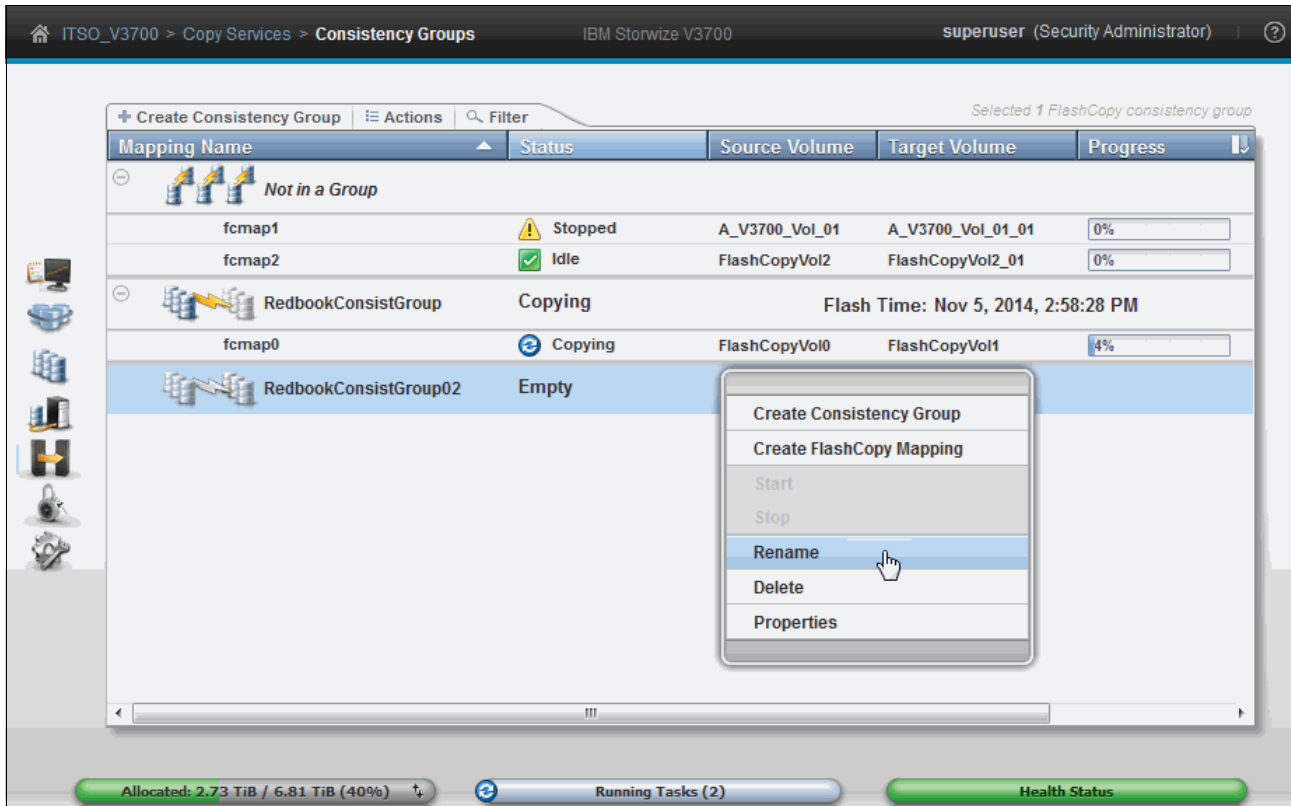

Figure 10-56 Renaming a consistency group
4. You can rename the Consistency Group by selecting it and then right-clicking, or by using the **Actions** menu. Select **Rename** and enter the new name, as shown in Figure 10-56. Next to the name of the consistency group, the state shows that it is now an empty consistency group with no FlashCopy mapping in it.